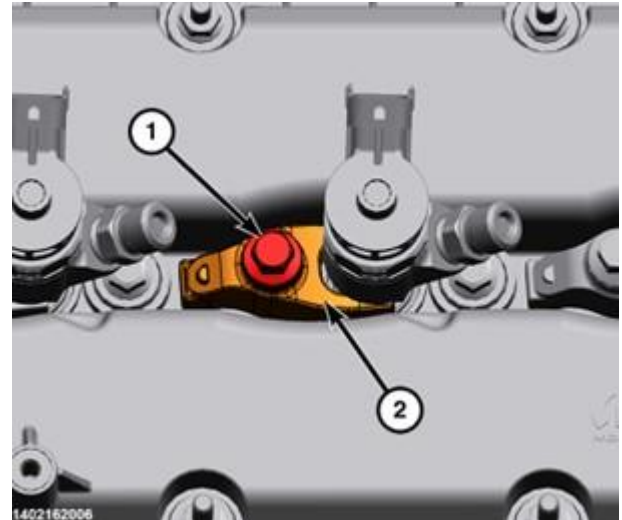

Figure 54 – Fuel Injector Bolt and Clamp
97. Install the fuel injector clamp (2) and tighten the bolt (1) and tighten the bolt (1) to 33 N·m (24 ft. lbs.) (Figure 54).